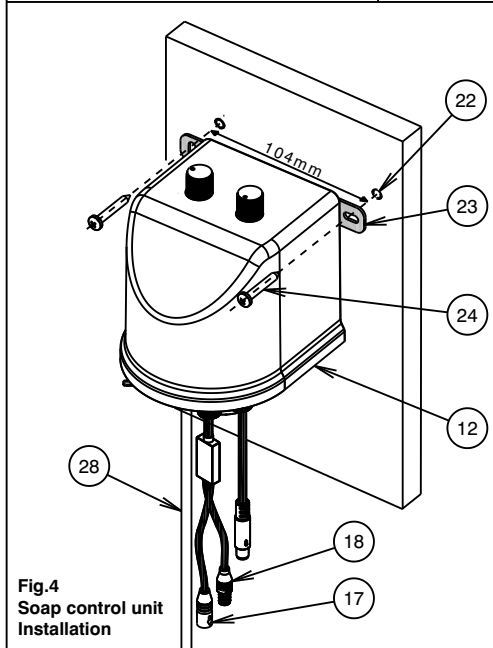

Fig.4
- i) Drill two $\Phi 6$ mm holes, 40mm deep and 104mm apart horizontally as shown in Fig. 4.
- ii) Insert small end of wall plugs (22) into drilled holes and tap until flush with wall/tile face.
- iii) Align the slots on fixing plate (23) with the holes on the wall, pass the screws (24) through the slots and insert into the wall plugs (22). Then tighten the screws. DO NOT OVERTIGHTEN.
- i) Drill two holes at 104mm apart horizontally to suit the self tapping screws supplied as shown in Fig. 4.
- ii) Align the slots on fixing plate (23) with the holes on the wall, pass the screws (24) through the slots and insert into the wall plugs (22). Then tighten the screws. DO NOT OVERTIGHTEN.